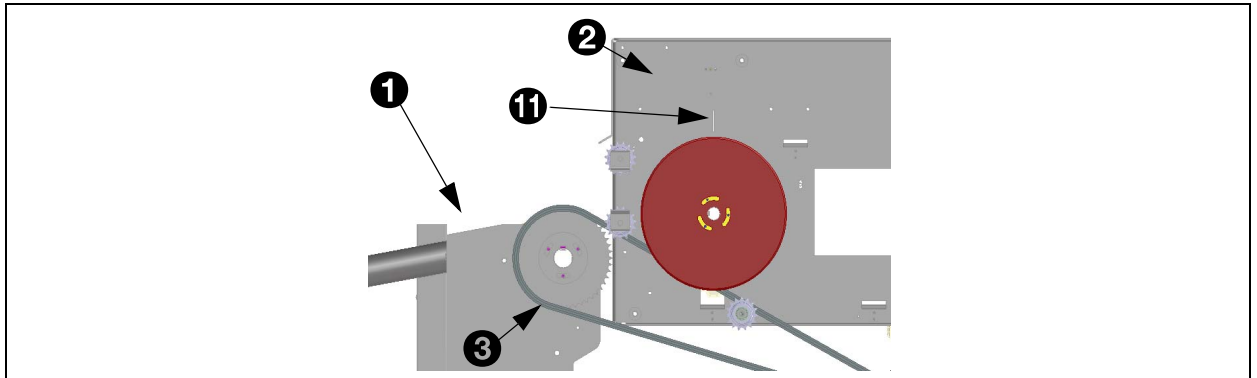

Fig. 84 - Transfer-point infeed unit - loadcell-unit
After the transport by the infeed unit (1), fig. 84, the eggs are transferred to the loadcell-unit (2). This transfer-point can be adjusted in two ways:
3. Mount the chain (3) of the drive. See fig. 84